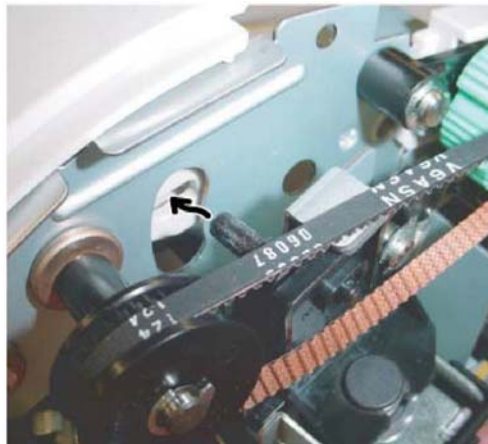

Figure 5 Sub paddle assembly installation
2. Install the sub paddle assembly as shown in Figure 5.